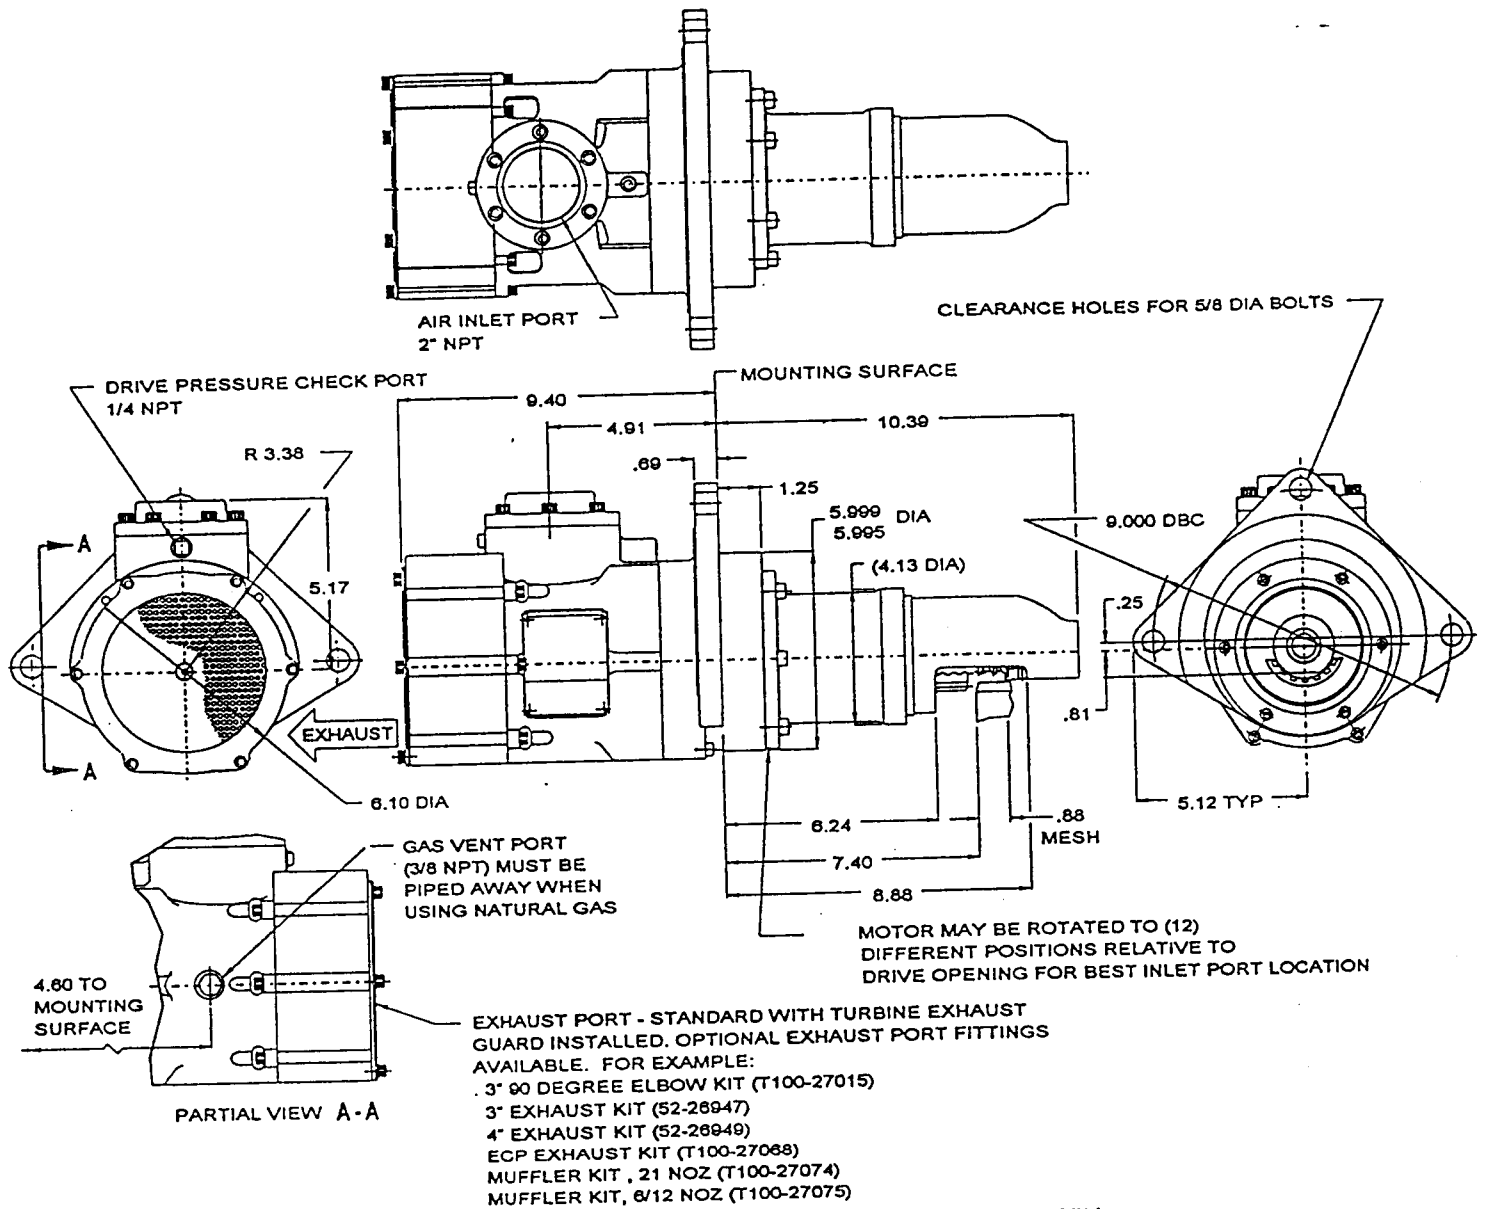

Figure 4. T112D/T121D (Standard Mesh) TURBOTWIN
Figure 4 shows the Models T112D/T121D which are 20.1" long overall and 8.4" in height. The mounting flange is 10.2" diameter. This model weighs 70 pounds. The turbine housing diameter is 6.8". The rotary inertia of all rotating components is _____ lb-in².
Refer to Figure 4 or 5. The drive housing may be rotated to 12 different positions relative to the inlet port. This task should be completed prior to installing the starter on the engine. The following procedure describes how to accomplish this. First, remove the (6) 5/16" X 1.25" long screws which attach the drive housing to the turbine housing. Next, rotate the drive housing without removing it from the starter to the desired position. Clean the screws with Loctite Safety Solvent or equivalent. Reinstall the (6) screws using Loctite #290 Threadlocker adhesive or equivalent. Torque the screws to 25 lb-ft maximum.